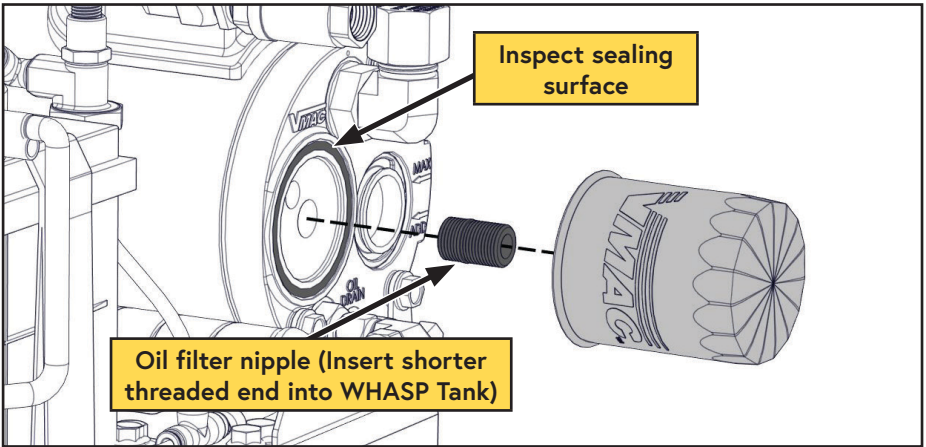

Figure 41 — Compressor oil filter
- *To reinstall the nipple, thoroughly clean the threads and apply Loctite 242 (blue) to the end with the short threads and replace it in the AOST (Figure 41).
- Clean the gasket sealing surface on the front of the tank and inspect it for damage. The surface must be free of old gasket material and smooth to ensure a good seal. (Figure 41).